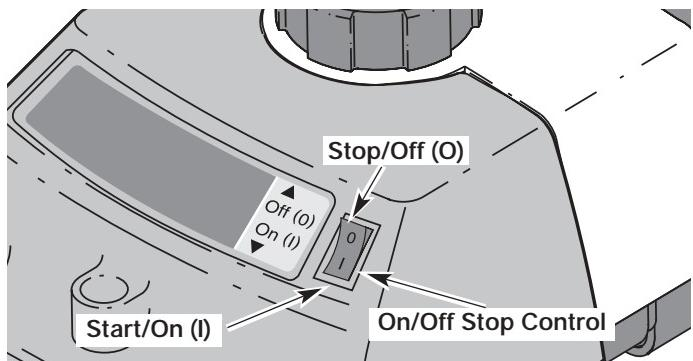
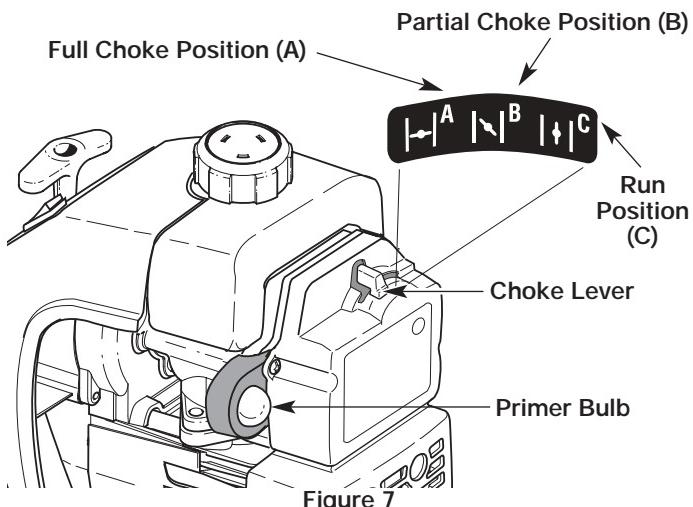

Figure 6
Figure 7
2. Put the On/Off Stop Control in the **ON (I)** position. See Figure 6.
3. Fully press and release the primer bulb 10 times, slowly, until **FUEL IS VISIBLE IN THE PRIMER BULB**. See Figure 7. If you can't see fuel in the bulb, press and release the bulb as many times as it takes before you can see fuel in it.
4. Place the choke lever in the **FULL** choke (**A** |---|) position. See Figure 7.
6. Place the choke lever in the **PARTIAL** choke (**B** |\-\|) position. See Figure 7.
9. If the engine floods while trying to start, place the choke lever in the **RUN** (**C** |\+\|) position. See Figure 7. Squeeze the throttle control. Pull the starter rope briskly. The engine should start within three (3) to eight (8) pulls.
10. Squeeze the throttle control to warm up the engine for 5 to 10 seconds. Place the choke lever in the **RUN** (**C** |\+\|) position. See Figure 7.
NOTE: *Choking is unnecessary when starting a warm engine. Put the On/Off Stop Control in the **ON** position (Figure 6), and start in **PARTIAL** choke (**B** |\-\|) position (Figure 7). After starting, place the choke lever in the **RUN** (**C** |\+\|) position.*
2. Put the On/Off Stop Control in the **OFF (O)** position. See Figure 6.